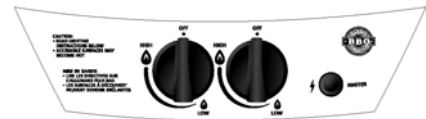

FIG. 6
- Two valves independently control gas flow to each burner, as indicated on the front of the Control Panel. ( See Fig. 6 ).